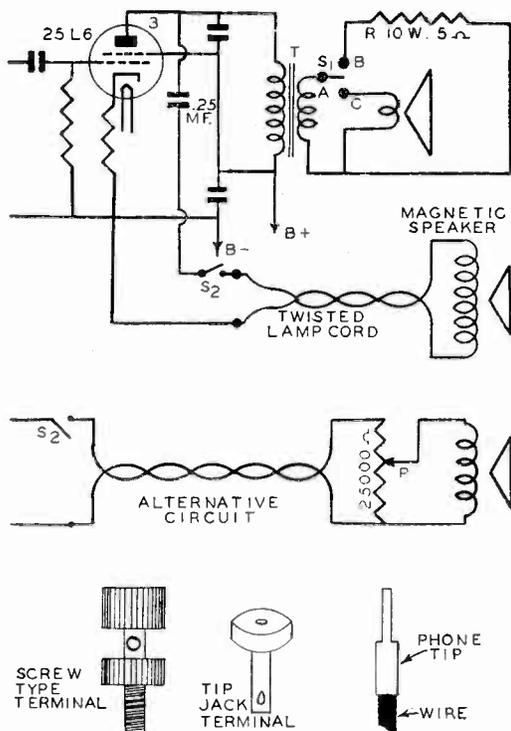

Fig. 1
magnetic speaker to a single-ended output stage, of a typical radio receiver using a type 25L6 in the output stage, is illustrated in Figure 1. Switch S1 is a single pole double throw switch. When the Arm (A) is thrown to position B, the radio loudspeaker is disconnected and the 5-ohm resistor is placed in the circuit.*
To prevent blasting of the speaker, it may be necessary to use a volume control as shown in the lower part of Figure 1. The potentiometer P may have a value of approximately 25,000 ohms. Tip jacks can be used for connecting the speaker and the ends of the twisted wires may be fitted with phone tips which are soldered on. The tips are then plugged into the tip jacks. If you wish, screw type terminals may be used. It would be possible to solder the connections but this might lead to inconvenience in the event the connections must be broken or taken off temporarily for repair purposes later on.
The circuit illustrated in Figure 1 also could be used with other output tube arrangements employed in a.c. operated radios. This will be explained later on in this article.
The first concept to keep in mind is the development of a potential by a battery or other source of voltage, such as the power supply system in a radio. This voltage is applied to a load through a series resistance. The fundamental circuit is shown in Fig. 1. A voltmeter may be connected across the source to measure the source potential, across the load to measure the load voltage or potential, and across the series element to measure the voltage drop across that particular portion of the circuit.